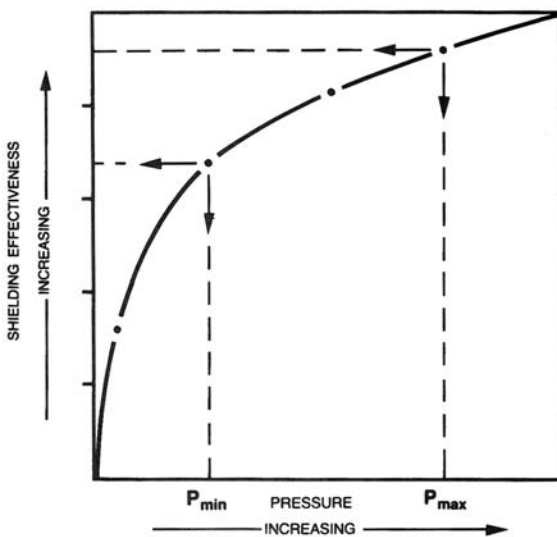

Figure 7-3, Shielding Effectiveness Versus Closure Force (Typical characteristics at a given frequency)
Shielding effectiveness and closure pressure have a general relationship as shown in Figure 7-3. The minimum closure force (P_{min}) is the recommended applied force to establish good shielding effectiveness and to minimize the effects of minor pressure difference. The maximum recommended closure force (P_{mx}) is based on two criteria: (1) maximum compression set of 10% and/or (2) avoidance of possible irreversible damage to the gasket material when pressure exceeds the recommended maximum. Higher closure pressures may be applied to most knitted wire mesh gaskets when used in Type I joints, but the gaskets should be replaced when cover plates are removed, i.e., whenever the seam is opened.